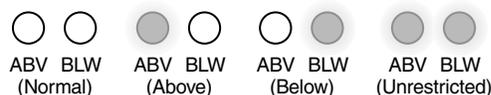

Figure F-2. External Annunciator Operation.
16. Change the altitude display modes from normal (NRM), below (BLW), above (ABV), and unrestricted (UNR). Verify that the system toggles through the altitude display modes correctly (some alternate displays do not support unrestricted display mode). If external annunciators are connected verify correct operation (see figure F-2).